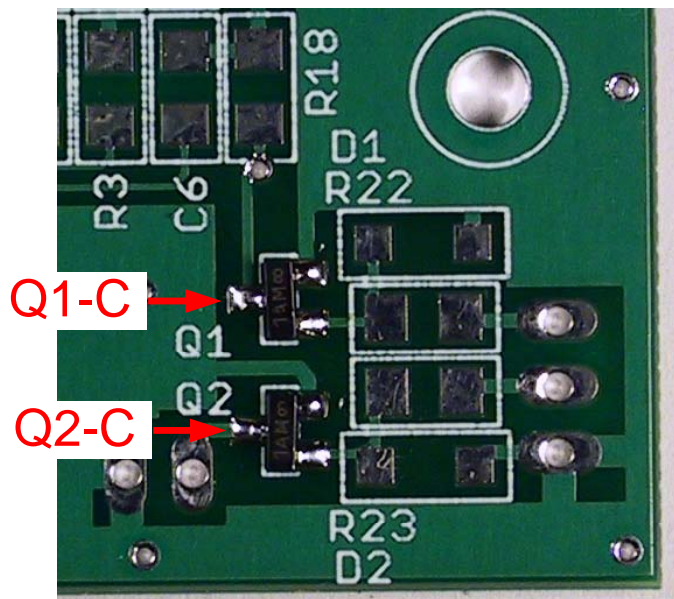

Figure 4. Q1 and Q2 Locations
- Remove the strip containing Q1 and Q2 from the active component compartment. These are MMBT3904 transistors and are marked either 1A, or 1AM. Refer to **Figure 4** for placement.